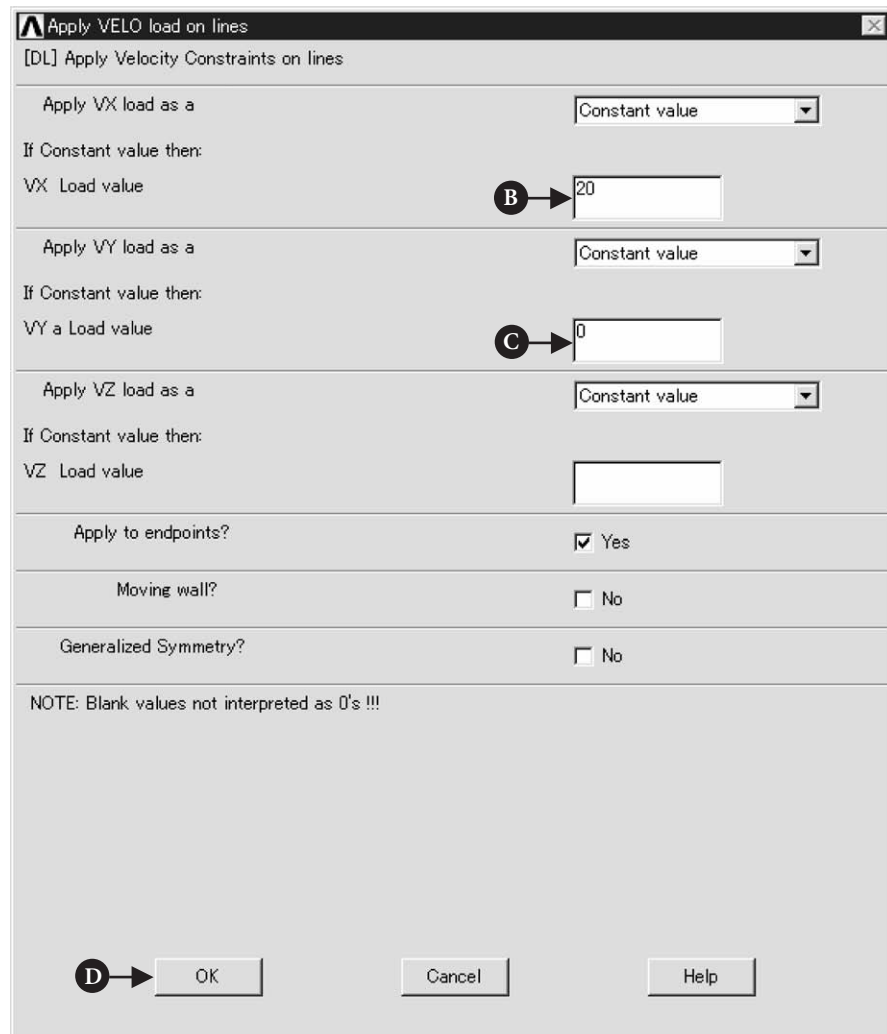

Figure 5.21 Window of **Apply VELO load on lines**.
- (1) Pick **Line 4** at the entrance of the diffuser and click [A] **OK** button. Then the window **Apply VELO load on lines** as shown in Figure 5.21 opens.